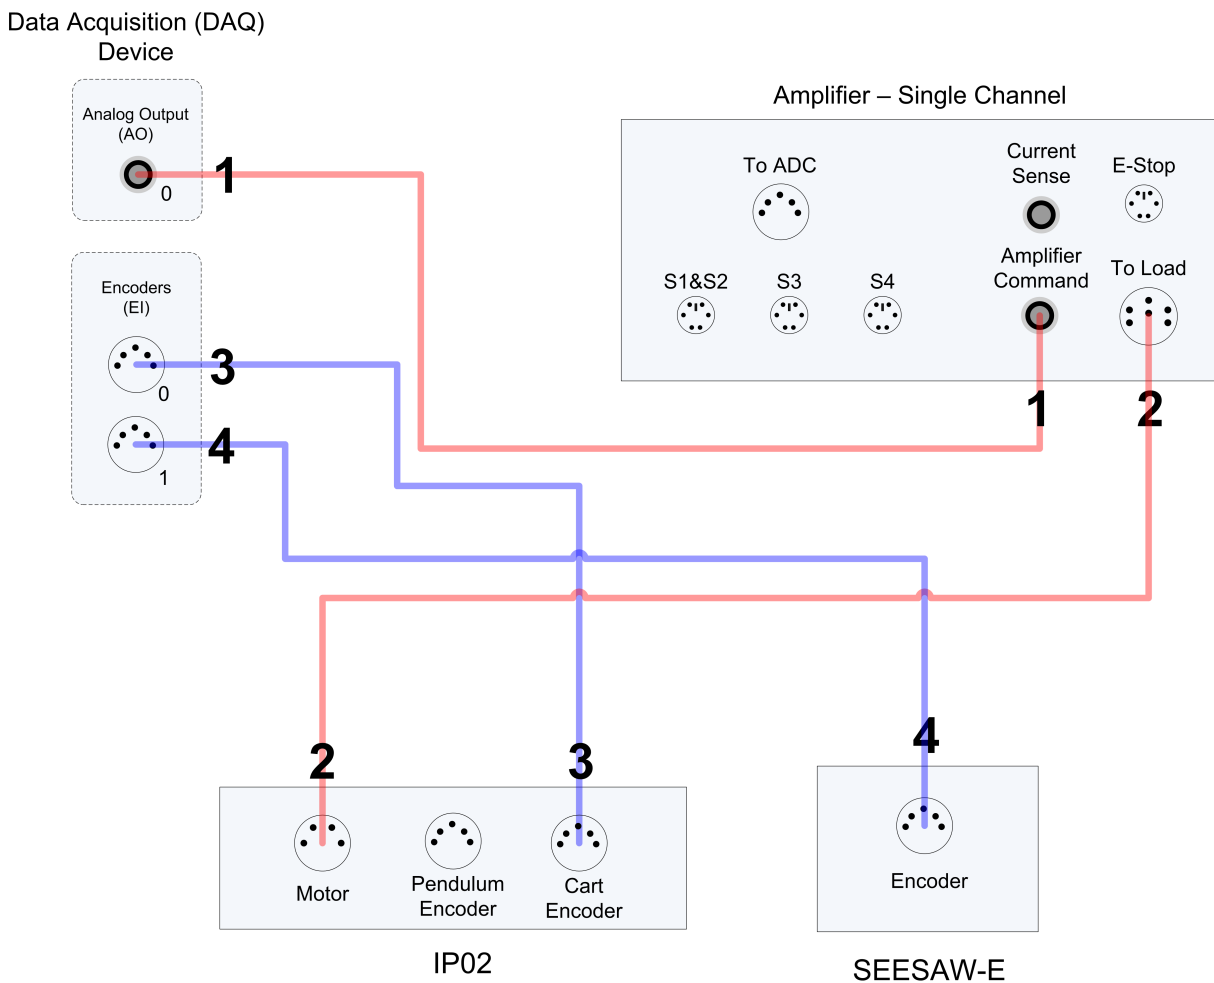

Figure 5.1: SEESAW-E and IP02 connection diagram
The connections are given in Table 5.2 and illustrated in Figure 5.1. The detailed wiring procedure is given below.
3. Connect one end of the 2xRCA to 2xRCA cable from the Analog Output Channel #0 on the data acquisition (DAQ) device to the Amplifier Command connector on the amplifier. See cable #1 shown in Figure 5.1. This carries the attenuated IP02 motor voltage control signal,  $V_m/K_a$ , where  $K_a$  is the amplifier gain.
4. Connect the 4-pin-stereo-DIN to 6-pin-stereo-DIN from "To Load" on the amplifier to the Motor connector on the IP02. See connection #2 shown in Figure 5.1. The cable transmits the amplified voltage that is applied to the IP02 motor and is denoted  $V_m$ .
5. Connect the 5-pin-stereo-DIN to 5-pin-stereo-DIN cable from the IP02 Cart Encoder connector to Encoder Input # 0 on the data acquisition (DAQ) device, as depicted by connection #3 in Figure 5.1. This carries Cart position measurements.
6. Connect the 5-pin-stereo-DIN to 5-pin-stereo-DIN cable from the SEESAW-E Encoder connector to Encoder Input # 1 on the data acquisition (DAQ) device, as depicted by connection #4 in Figure 5.1.